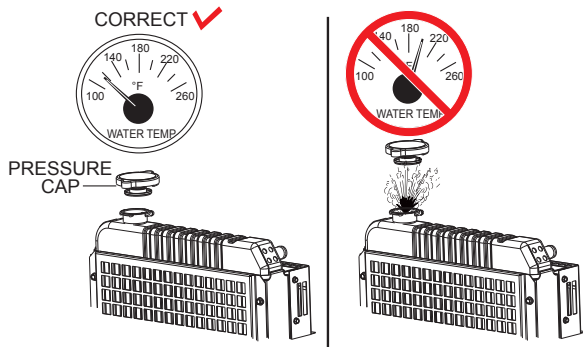

Figure 71. Radiator Pressure Cap Removal
1. Remove the **radiator pressure cap** (Figure 71) only when the coolant temperature is below 120°F (50°C).